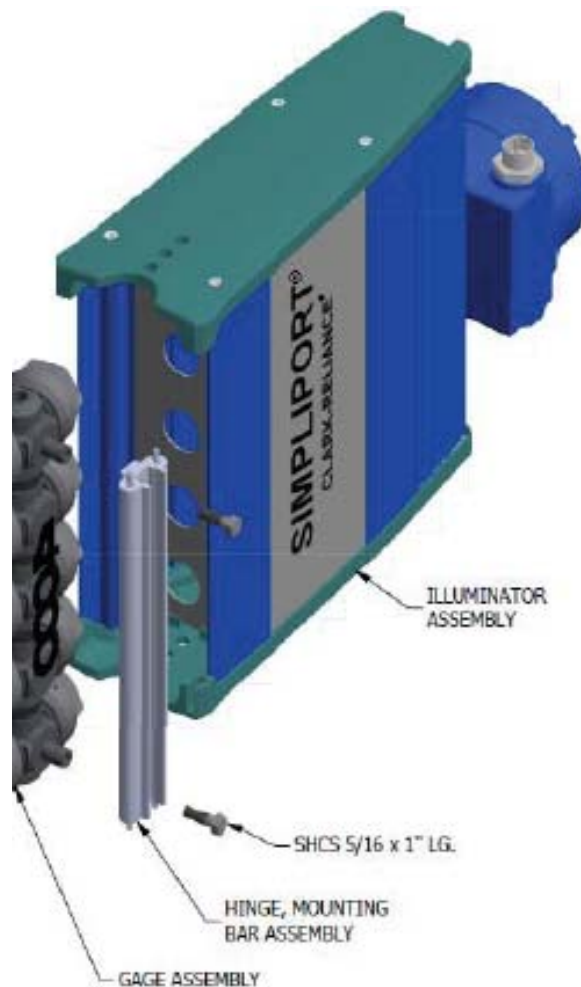

Figure 1
### SIMPLIPOINT 4000 SERIES COMPONENTS (Figure 1)
1) Assemble the mounting bar assemblies to the Simpliport Gage mounting lugs using the (4) 5/16" X 1" SHCS that are provided (Figure 1).